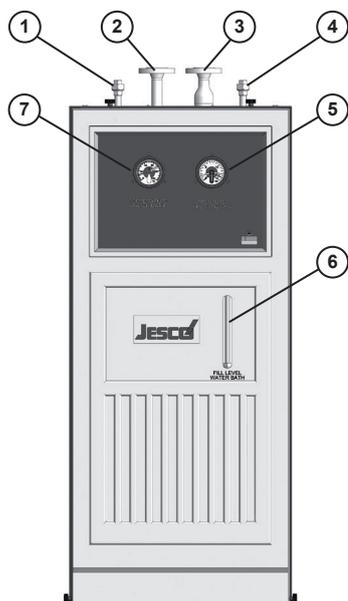

Fig. 1: Structure of the device
The level of the water in the water tank can be read off from the fill level display (6) (see Fig. 1). During trouble-free operation of the system, the fill level display is filled to two thirds. The water level is monitored by a 3-bar level probe. The level probe causes a solenoid valve in the water supply to open or close depending on the water requirement as a consequence of water evaporation.